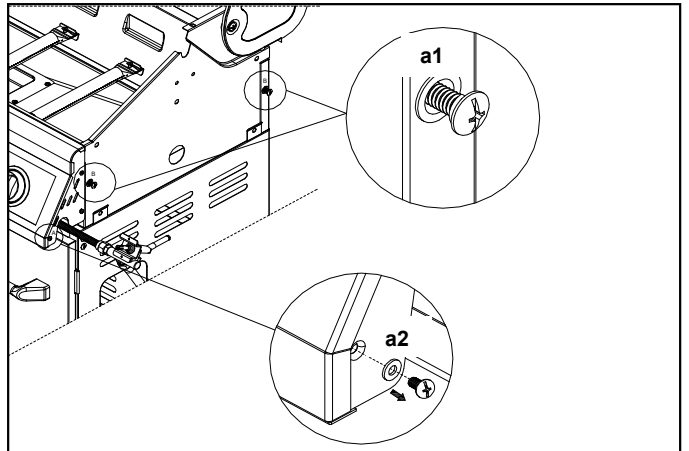

Fig.1-2
- c) Remove the 3 screws on the top edge of the side burner bowl (C). See Fig.1-2.a3.
- d) Align the bottom key holes on side burner bowl (C) with 2 loosened screws on right side panel. Hang the side burner bowl (C) to the cart with the two loosened screws on the side panel. See Fig.1-2.
- e) With the three screws removed in Step c) insert them from inside the fire box into the side burner bowl (C). Tighten screws from inside of fire box.
- g) Attach the side burner control panel to the main control panel by tightening the screw removed in step b) from underneath the side burner bowl (C). Screw passes through the side burner control panel to the main control panel. See Fig.1-2.
- b) Install battery (J) into ignition box with positive terminal facing outward.